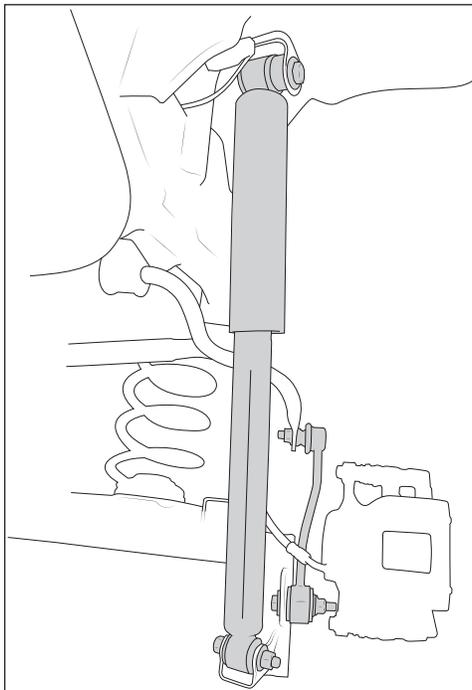
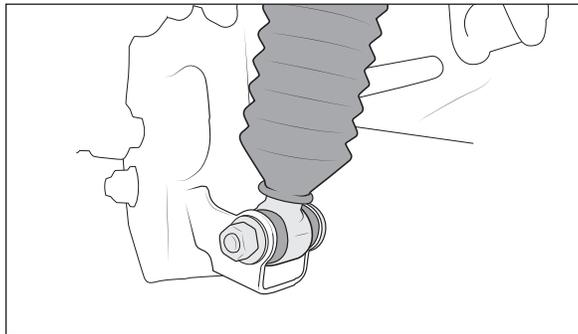

Figure 2
Figure 10
2. Remove the shocks and save hardware (Fig. 2).
4. Remove the sway bar end links and save mounting hardware. **392 vehicles will re-use end links** . Note the orientation of the end links, the new end links will be installed in the same way (see Fig. 2).
11. Re-install lower shock nut and bolt and tighten* (Fig 10). Install AEV sway bar end links (the longer of the 2 versions supplied in the kit) using factory hardware and tighten* (see Fig 2).